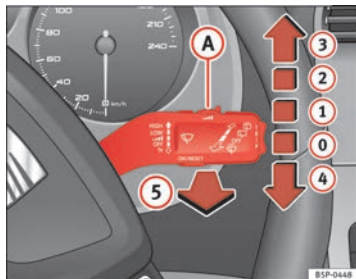

Fig. 85 Windscreen wiper and windscreen wash lever
The windscreen wiper lever → fig. 85 has the following positions:
- The next speed down will automatically be selected if wiper speed ② ⇒ page 125, fig. 85 or ③ is selected when the vehicle stops. The set speed will be resumed when the vehicle starts again